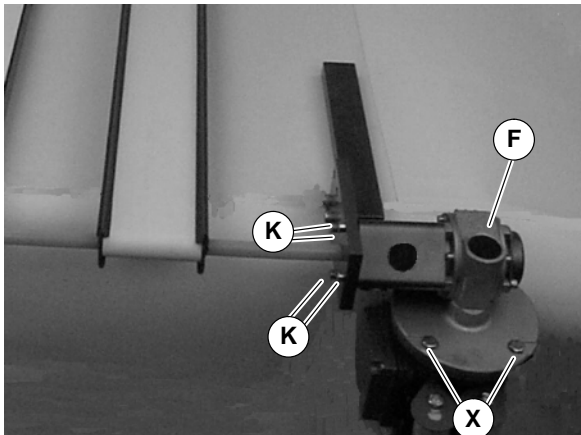

Figure 25
2. Remove four (4) screws (K of Figure 25) and remove gear motor assembly (F).